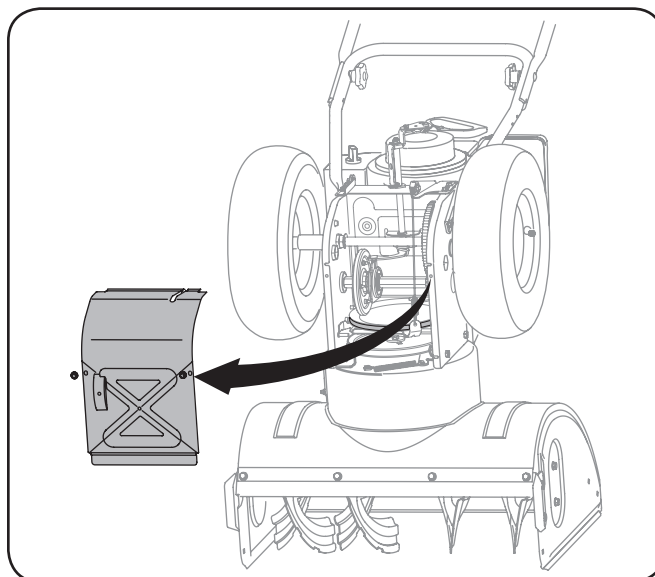

Figure 7-3
4. Remove the frame cover from the underside of the snow thrower by removing four self-tapping screws which secure it. See Fig 7-3.